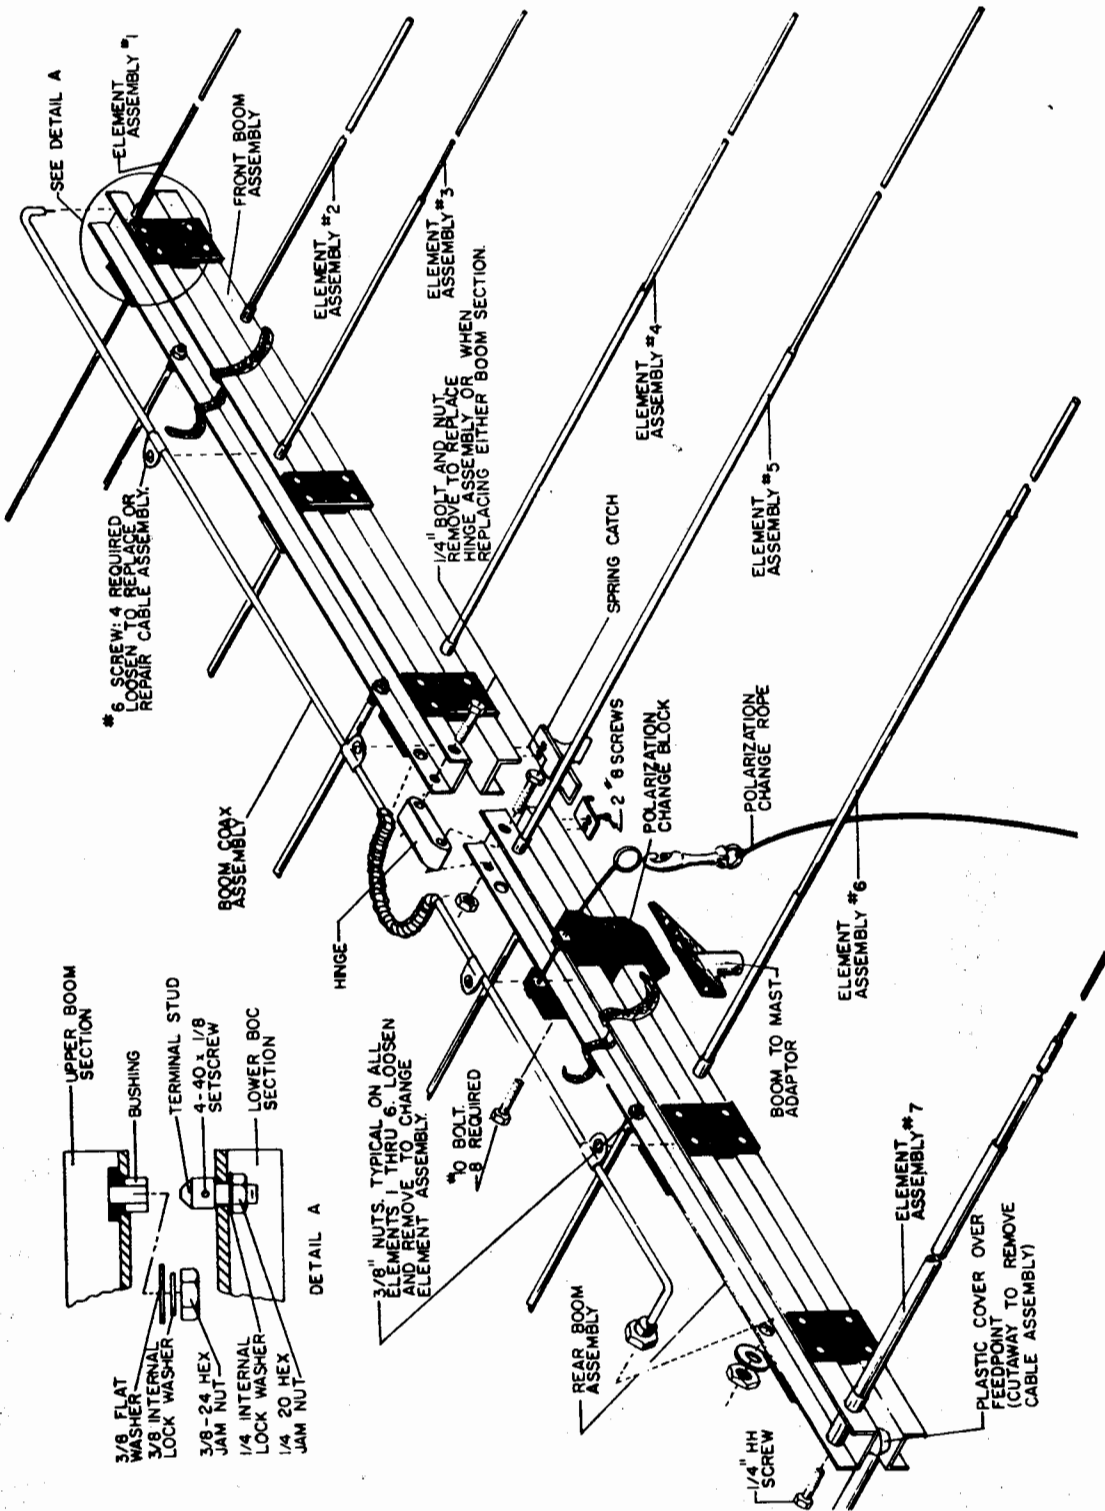

Figure 3-1 Detail View of Antenna Array
a. Replacing extensively damaged elements. Refer to Figure 3-1.
(1) Replace the entire damaged element by removing the 3/8" nut located on the inside wall of the boom section;
- (2) Insert a new element;
- (3) Tighten the 3/8" nut securely.
(1) Remove the RF cable.
- (a) Refer to Figure 3-1 and cut away plastic cover over feedpoint.
(1) Repeat the procedure in paragraph 3-11 b., step 1.
(2) Remove the remaining two clips on the upper section of the rear boom assembly.
(3) Remove the nut from the RF cable connector and pull connector back out thru hole.
(4) Replace new RF cable making sure the spring and RF cable are inserted in the holes as shown in Figure 3-1.
(5) Fasten the new RF cable securely to the boom by reversing steps a. thru c. above.